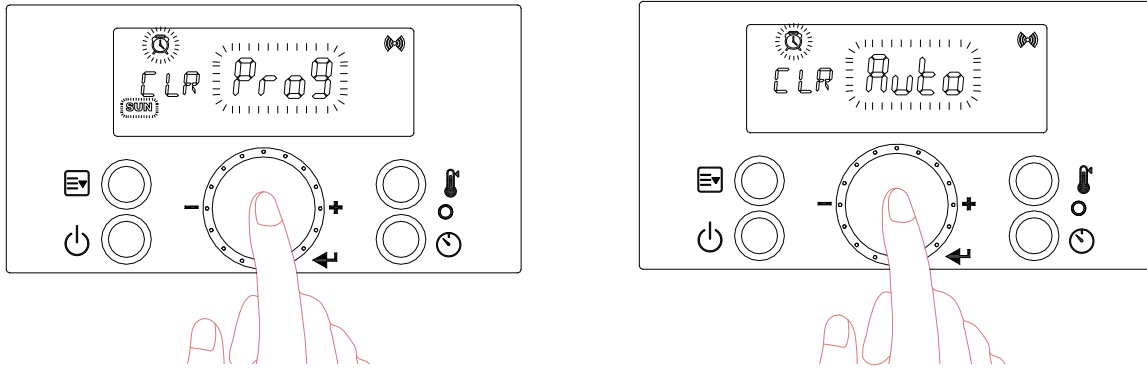

Figure 48 – Resetting the Recirculation Run Time
- c. Turn the dial  to “Pro9” or “Auto”. Press  at the Recirculation Timer Type you wish to reset. See Figure 48.